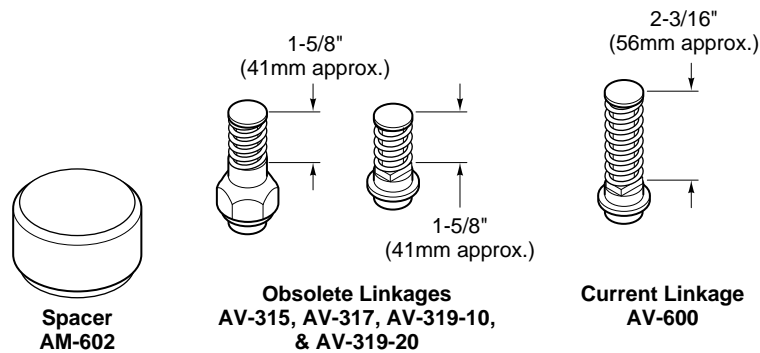
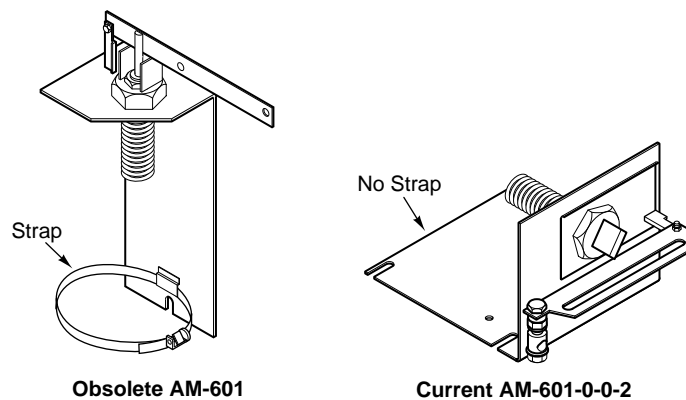

Figure-18 Current and Obsolete Valve Linkages.
Figure-19 Current and Obsolete Damper Linkages.
2. The AM-602 spacer is used when current actuators are installed on old linkages (refer to Figure-18 and Figure-19).